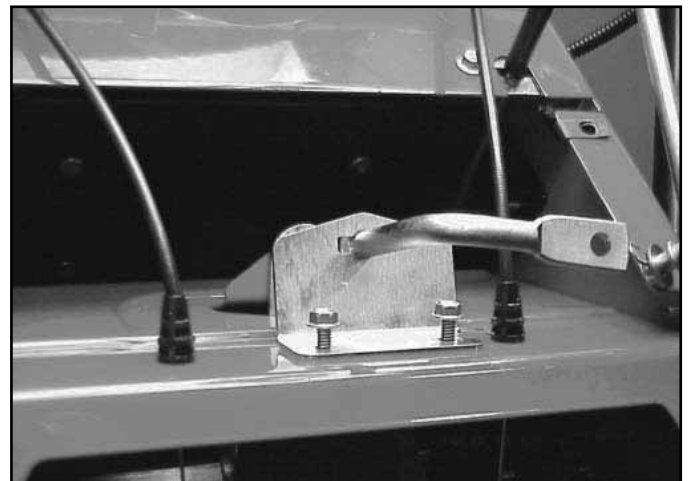
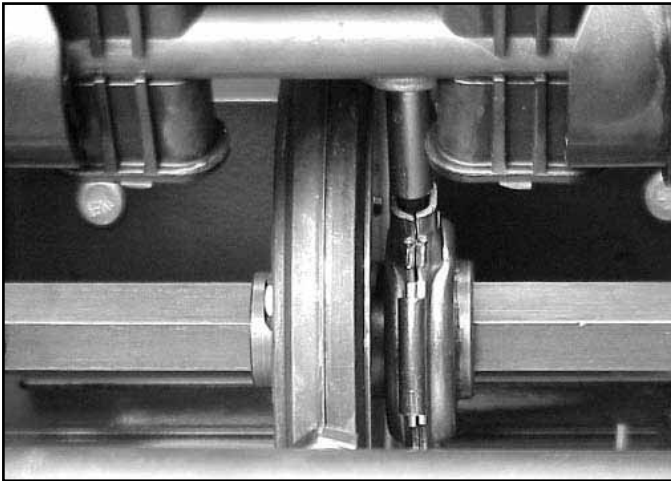

Fig 172
Fig 173 MVC-031XYX.jpg
23. Install shift rod / traction rod lever onto the housing (Fig. 172) making sure the traction control fits into the friction wheel (Fig. 173).